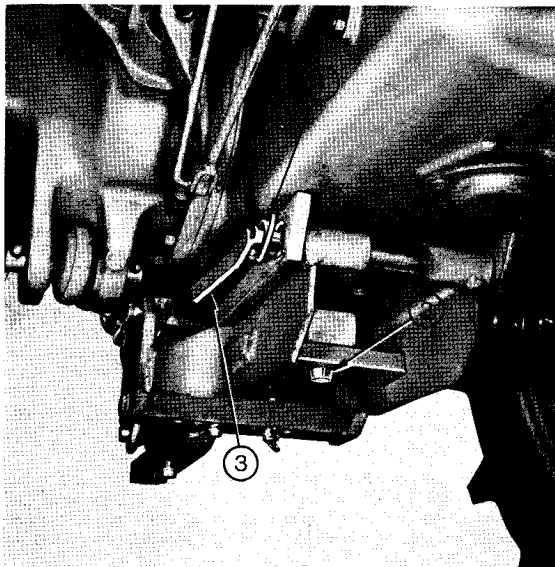

FIG. 14
Length: Fig. 14. Remove the pin (1) and withdraw the front support pin (3). Push the drawbar anchor pin (2) up from the underside of the drawbar frame. Adjust the drawbar for length, refit the anchor pin, then raise the drawbar frame and secure it with the front support pin and the securing pin.